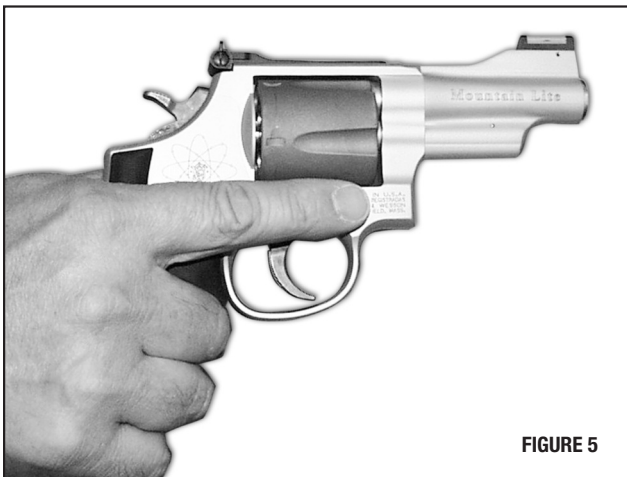
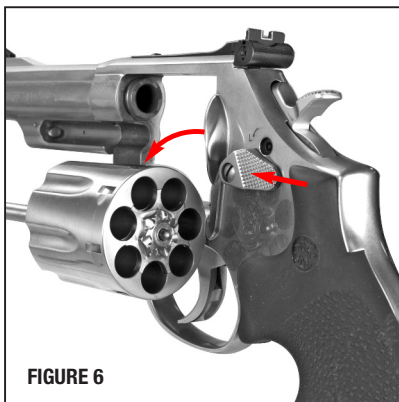

FIGURE 5
FIGURE 6
- With your finger off the trigger and outside of the trigger guard (FIGURE 5), keep the barrel of the firearm pointed in a safe direction. Press the thumbpiece fully forward and hold it, then push the cylinder to the left (FIGURE 6).